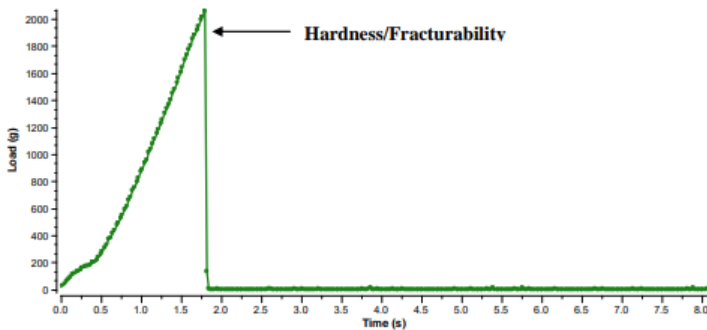

Figure 1
- Figure 1: Load vs. Time graph shows maximum force (hardness) and force required for the first fracture (fracturability).